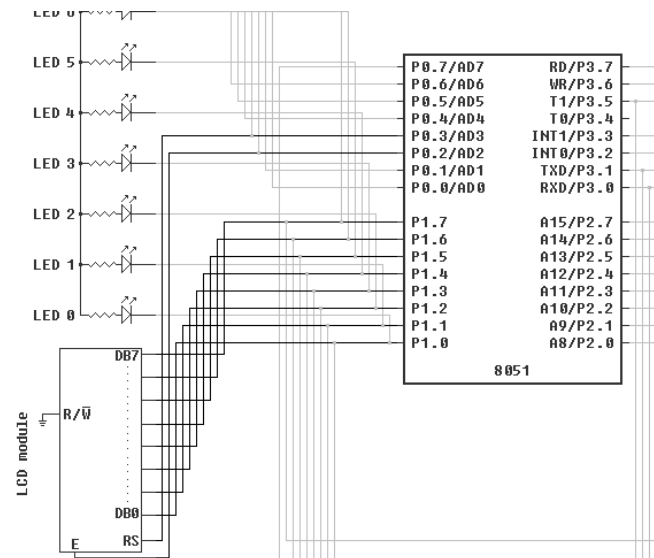

Figure 1.8: Figure showing **circuit diagram interfacing LCD Module with 8051.**
**Conclusion :** We developed assembly language code & C code to interface LCD Module with 8051 & display name on it using 2-lines. The circuit diagram connecting 8051 with LCD Module is shown in figure 1.8.